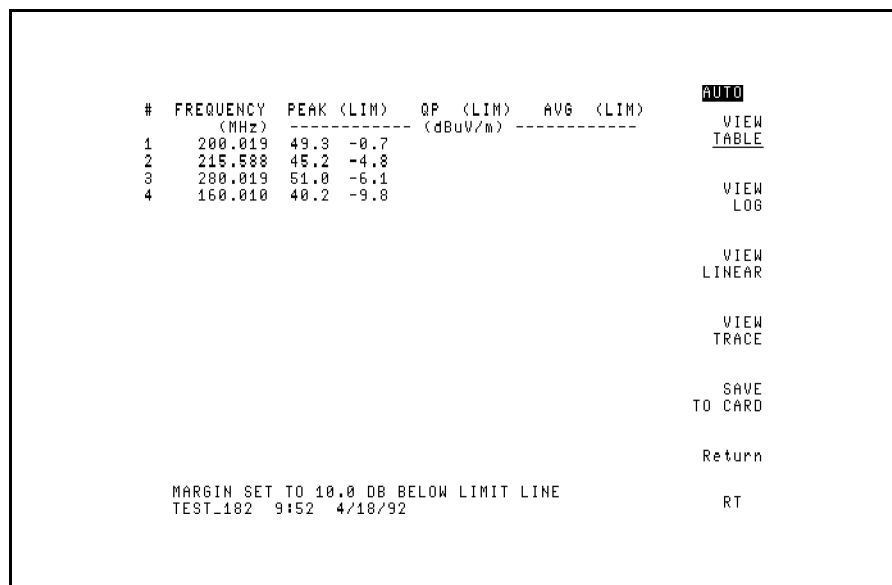

Figure 3-44. Viewing the Data in Tabular Form
13. Press **VIEW TABLE** to view the data in tabular form. See Figure 3-44.